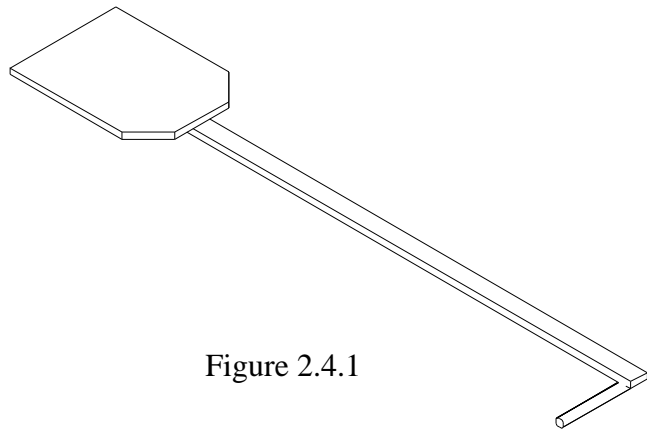

Figure 2.4.1
6. Locate air control plate Fig 2.4.1 (shipped inside firebox). Slide air control into tracks on firebox bottom as indicated in Fig 2.4.2.